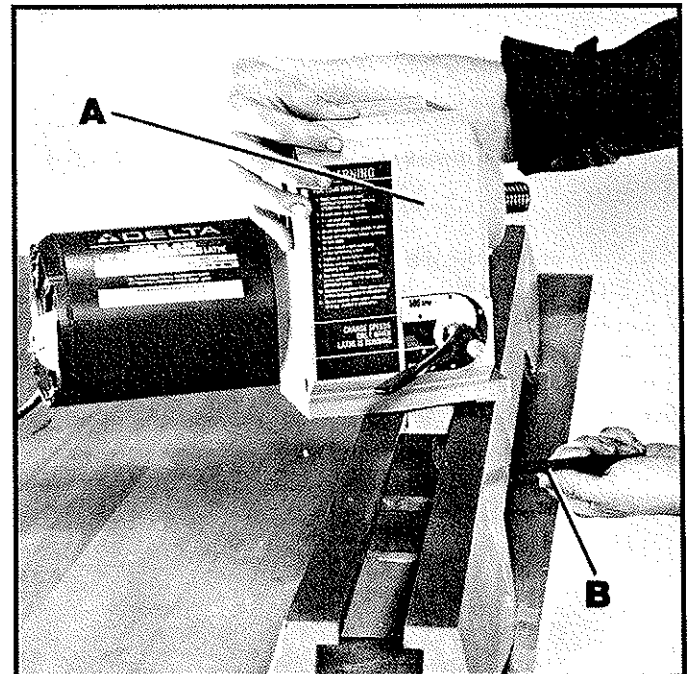

Fig. 82
1. Loosen the headstock locking screw located directly underneath the headstock (A) Fig. 82, with wrench (B) just enough to move the headstock (A) to the center of the lathe bed. The headstock locking screw must be loosened again, just enough to permit you to turn the headstock (A) 90 degrees clockwise so that the spindle will be facing straight out. Then tighten the headstock locking screw.